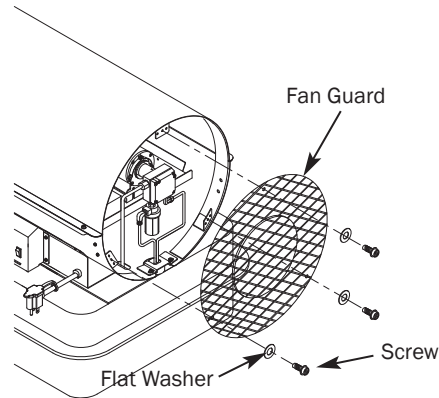

Figure 20 – Remove Fan Guard (CP400DK)
- Remove fan guard (See Figure 20,21).
- Use 3/8" wrench and tighten fuel line (B) at pump and pump fuel filter assembly.